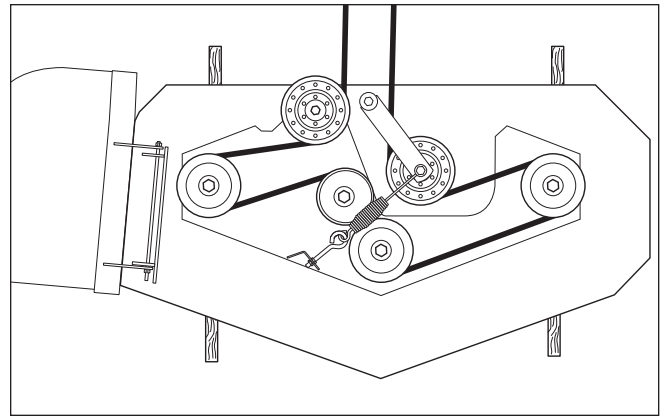

Figure 24. 2 x 4 Locations
4. Place the 2 X 4 blocks under each corner of the mower deck with the 3-1/2" sides being vertical. See Figure 24.